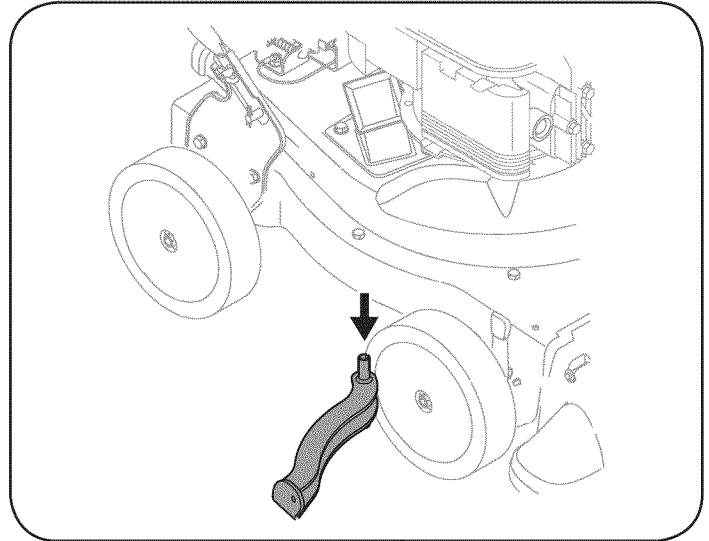

Figure 22
7. Remove and clean the screen by scraping or washing with water. See Figure 22.